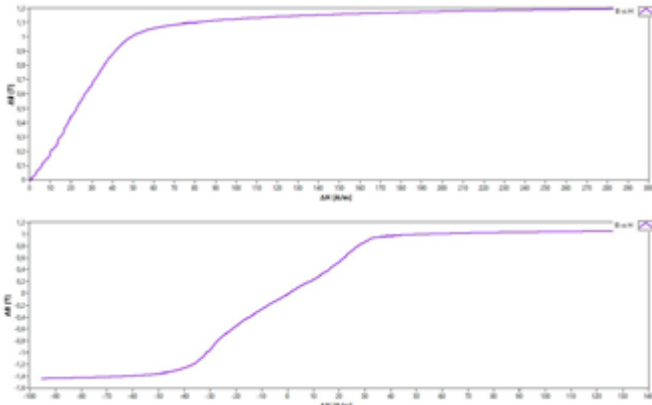

Figure 4: Magnetization curve of unipolar (a) and bipolar (b) excitation
With given parameters, i.e. nominal value for magnetic effective length and cross section and number of turns, nonlinear BH curve can be validated, in Figure 4 (a) as unipolar and (b) bipolar excitation.
- Flux density after geometrical normalization indicated the typical Bs of nanocrystalline of 1,2 Tesla, seen in Figure 4